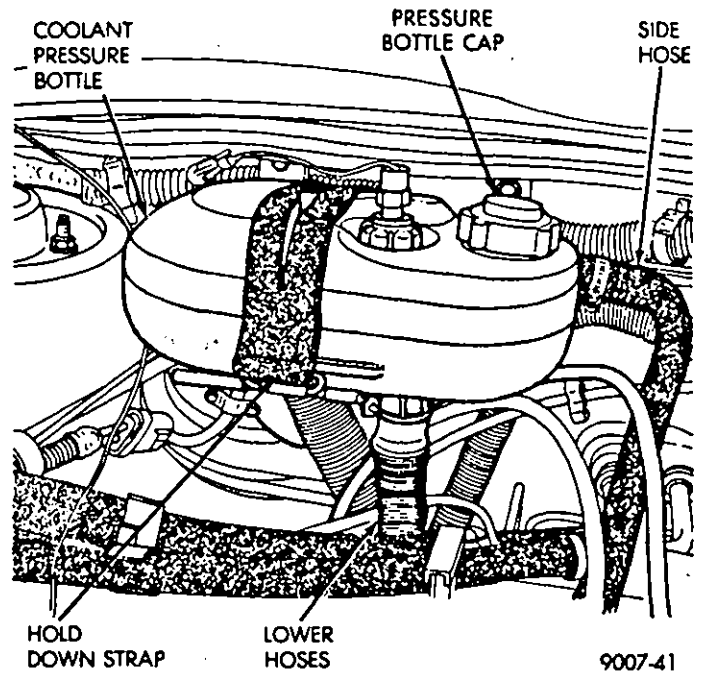

Fig. 3—Coolant Pressure Bottle Removal/Installation
The cooling system does not have a radiator pressure cap. Instead the pressure cap is mounted on the coolant pressure bottle. System coolant flows directly through a fully pressurized Hot-Type expansion bottle (Fig. 3). Coolant flows through the pressure bottle at all times during engine operation whether the engine is cold or at normal operating temperatures.
(1) Install hose collapsing clamps on coolant bottle lower hose and side hose.
(2) Position a clean container under the coolant bottle. Remove lower hose and catch coolant in container.
(3) Remove hose from side of coolant bottle (Fig. 3).
(4) Remove hold down strap (Fig. 3).
(5) Remove coolant bottle (Fig. 3).
(1) Install coolant pressure bottle.
(2) Lock hold down strap in place (Fig. 3).
(3) Install lower hose to coolant bottle (Fig. 3).
(4) Install hose to side of coolant bottle (Fig. 3).
(5) Remove hose collapsing clamps.
(6) Refill pressure bottle with coolant to top of post inside bottle.